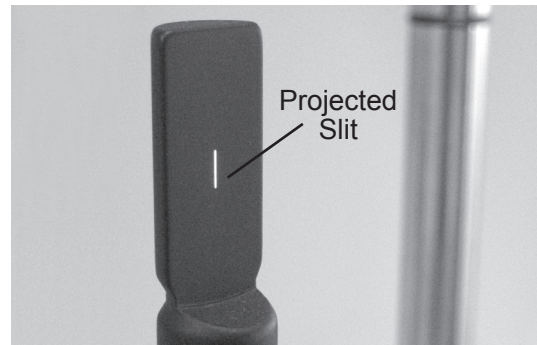

Figure IN-1 Focus on Slit
3. Position the light onto the flat surface of the Focusing Rod and adjust the pupillary distance and focus of the eyepieces to suit the needs of the operator. Refer to Figure IN-1.
4. Using the Slit Width Knobs, adjust the projected slit so that the thinnest slit is shown on the Focusing Rod. Refer to Figures IN-1 and IN-4.